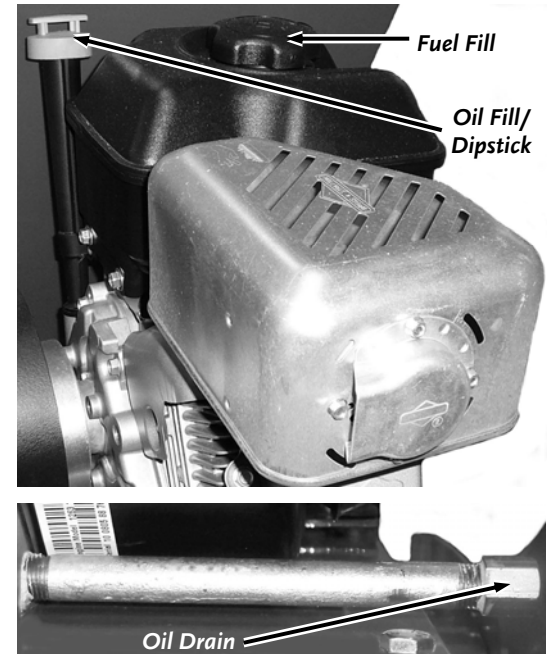

Figure 8
1. Block the machine so the Engine is level. Remove the Oil Fill/Dipstick (**Figure 8**) and clean the end of it with a rag.
6. Remove the Fuel Fill Cap and fill the Fuel Tank with fresh, unleaded gas (with a minimum of 85 Octane) to approximately 1" to 1-1/2" below the top of the Fill Neck to allow for Fuel expansion (**Figure 8**). Be careful not to overfill and reinstall the Fuel Fill Cap before starting the Engine. See your Engine Owner's Manual for more detailed information.